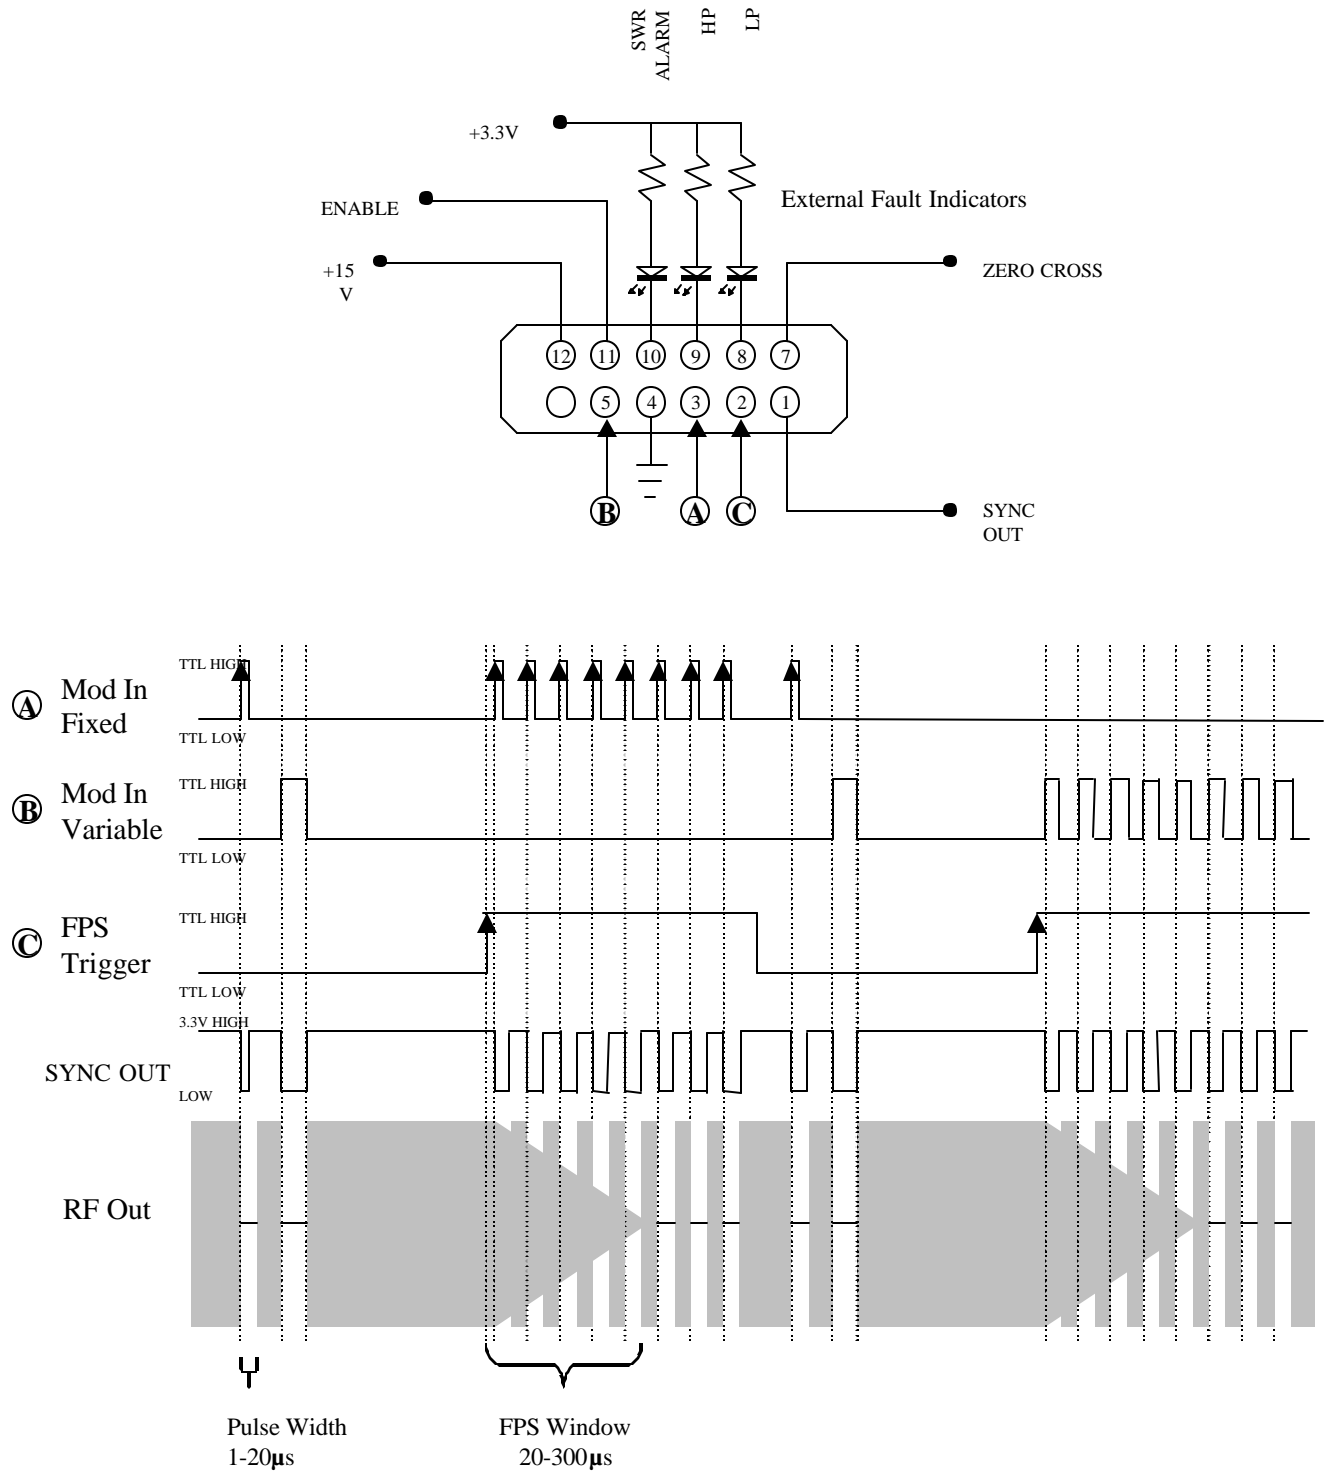

FIGURE 3
- **For PPK Control Option: See Figure 3**